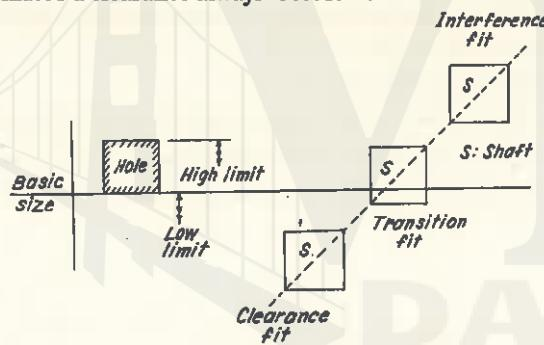

Fig. 5.4 Types of fits.
1. *Clearance fit*. It is the type of fit in which largest possible shaft is smaller in size than the smallest possible hole and when mated a clearance always occurs between the hole and the shaft, (Fig. 5.4).
- Transition fits exist between the zones of interference and clearance (Fig. 5.4).